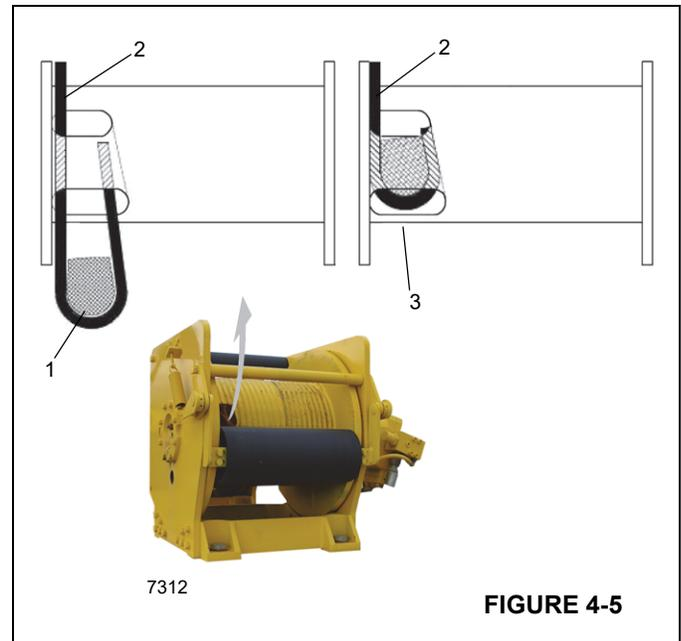

FIGURE 4-5
5. Insert the cable through the slot and position around the anchor wedge (1) Figure 4-5.